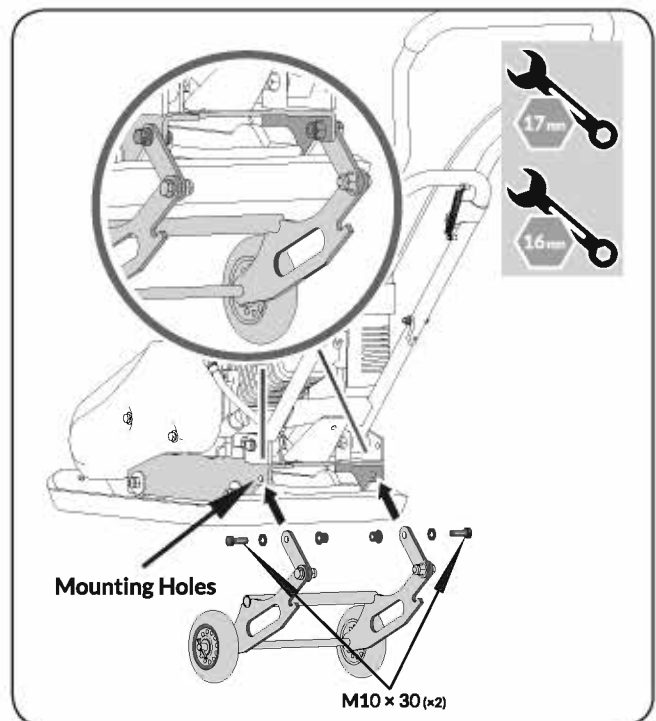

Figure 3a
1. Line up the holes in the link plates and engine deck. Secure the wheels using the nuts, washers, and bolts found in hardware packet #2. Do not overtighten the bolts, leave the wheel assembly so that it can be released with ease. (See **Figure 3a**)